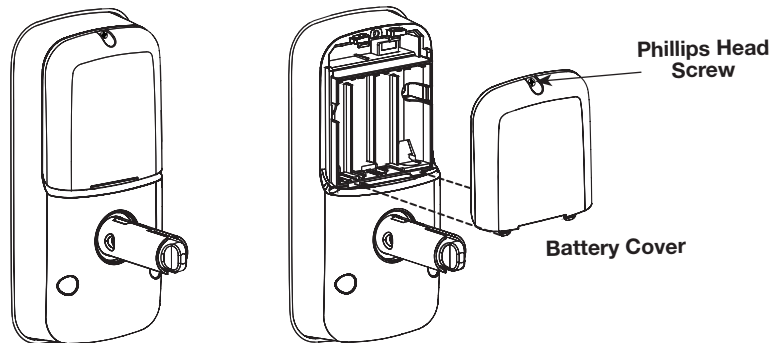

Figure 8
- Remove the battery cover from the back of the interior escutcheon (Fig. 8) by loosening the captive Phillips head screw, then lifting the cover up and out. Note tabs at bottom of cover.